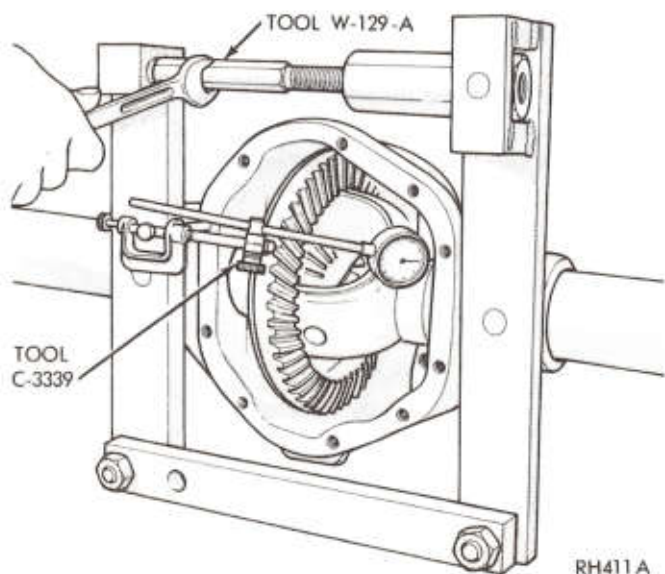

Fig. 5—Differential Carrier Spreader and Indicator
(8) Install carrier spreader, Tool W-129-A with dowels completely engaged to full depth in holes provided in housing (Fig. 5). **Be sure two hold down clamps are properly and firmly holding spreader in position.**
(9) Install a long stud in carrier cover bolt hole on left side of housing. Install dial indicator and fixture,
position indicator pointer on opposite side of housing (Fig. 5).